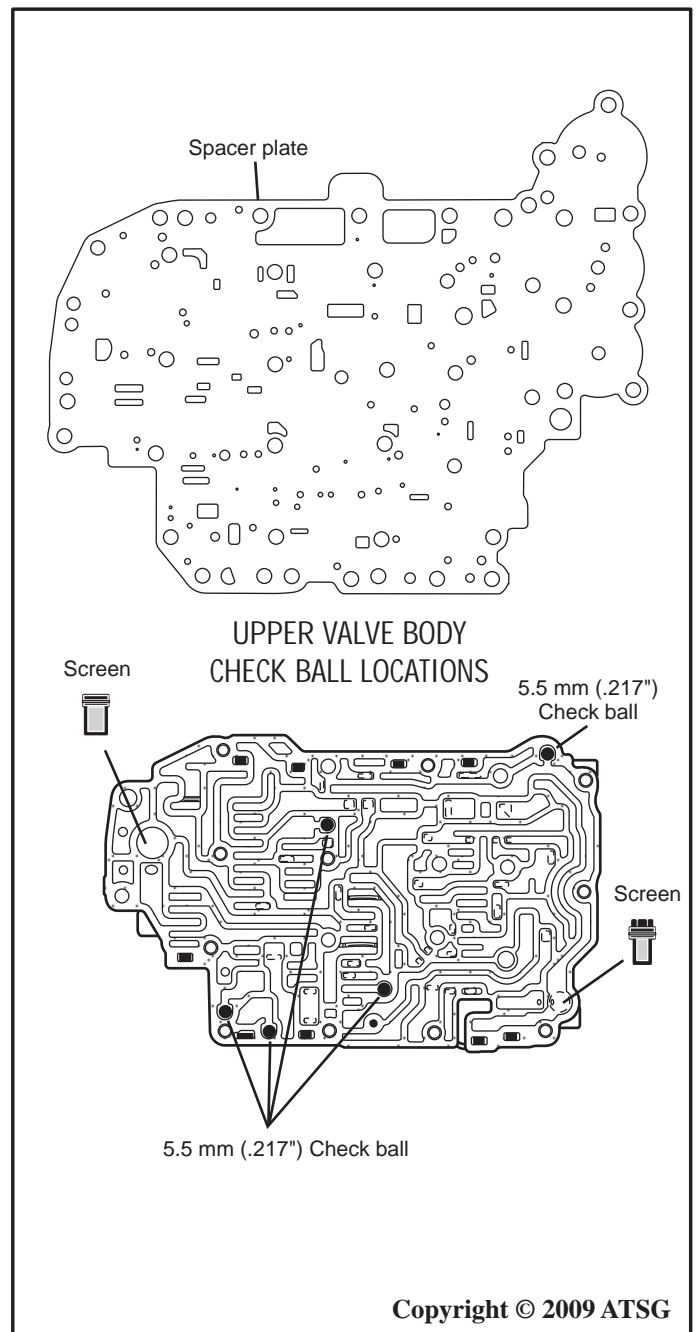

Figure 128
16. Remove the spacer plate from the upper valve body as shown in Figure 128.
17. Remove the two screens, and the five 5.5mm (.217") check balls as shown in Figure 128.